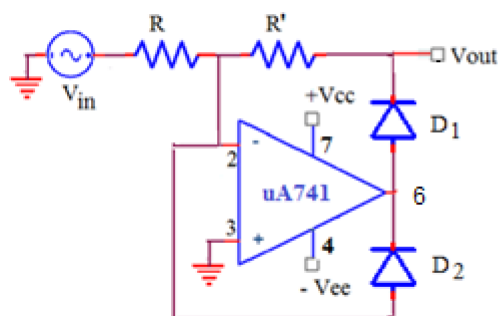

Fig. 8.1: Half-wave precision rectifier
1. Rig up the circuit as shown in the Fig. 8.1.
3. What happens if the diodes  $D_1$  and  $D_2$  are interchanged in half-wave precision rectifier circuit of Fig. 8.1?
4. What happens if the non-inverting terminal of OP-AMP is connected to 1V instead of ground in half-wave precision rectifier circuit of Fig. 8.1?